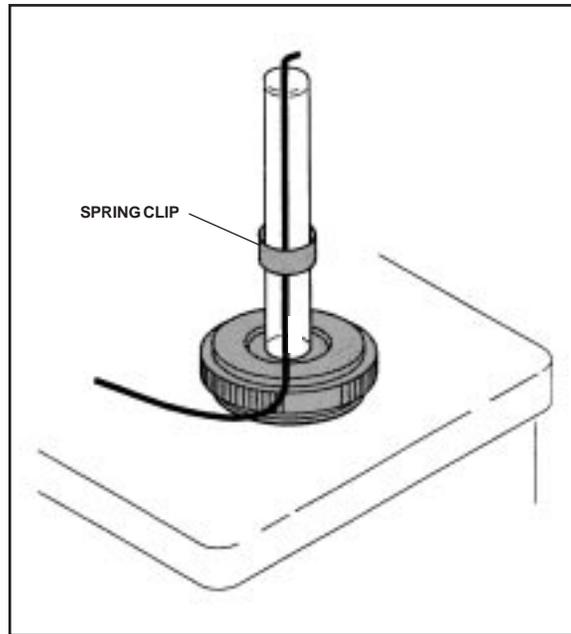

Figure 2.6
- b. Hold the thermocouple against the stage assembly, and put on the spring clip to keep the thermocouple in place (see Figure 2.6).